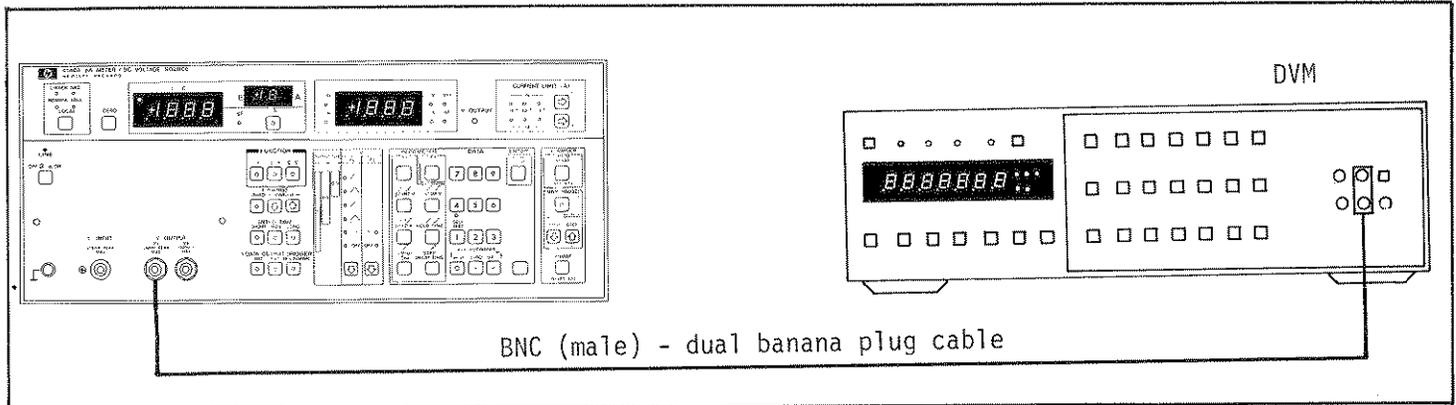

Figure 4-5. Ramp Wave Start Voltage Accuracy Test Setup.
1. Connect BNC (male) - dual banana plug cable between 4140A VA OUTPUT connector and DVM (see Figure 4-5).